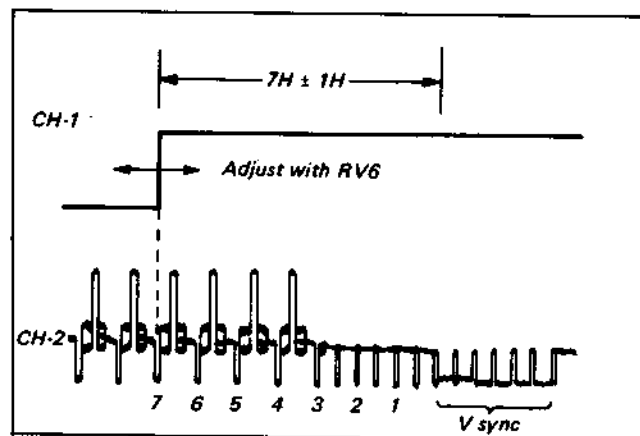

Fig. 4-10. RF switching position adjustment (2)
- (6) Adjust RV6 on the SS-9 board so that the time interval between the rise of CH-1's waveform and the vertical sync signal of CH-2's video signal become  $7H \pm 1H$  lines (see Fig. 4-10).